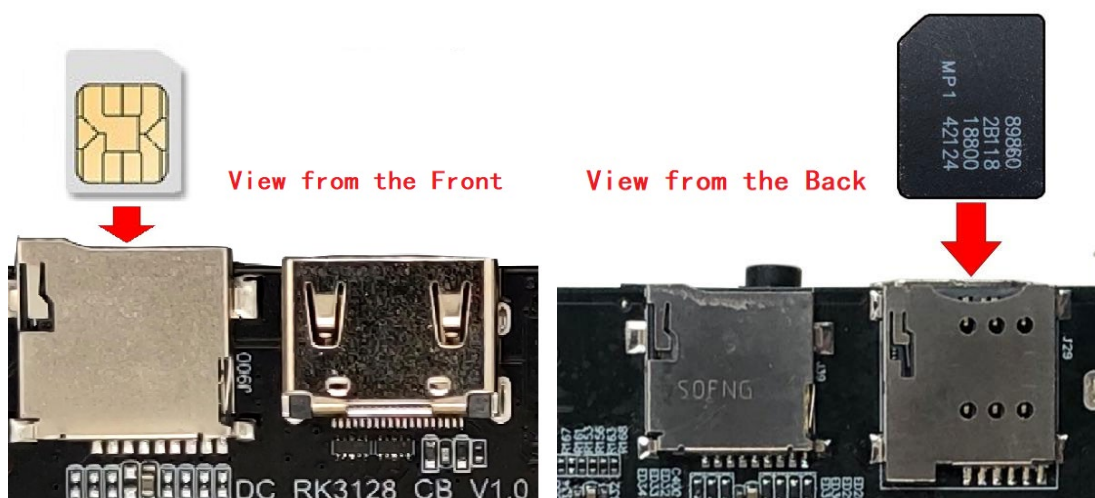

Figure 4.13 Install SIM Card in SIM Card Socket (Front View & Back View)
- To connect via 4G wireless network, insert the SIM card into the slot found at the upper center of the touch screen control board, located on the backside. **The contact area of the SIM card should be facing front when inserting the SIM card** (see **Figure 4.13**).